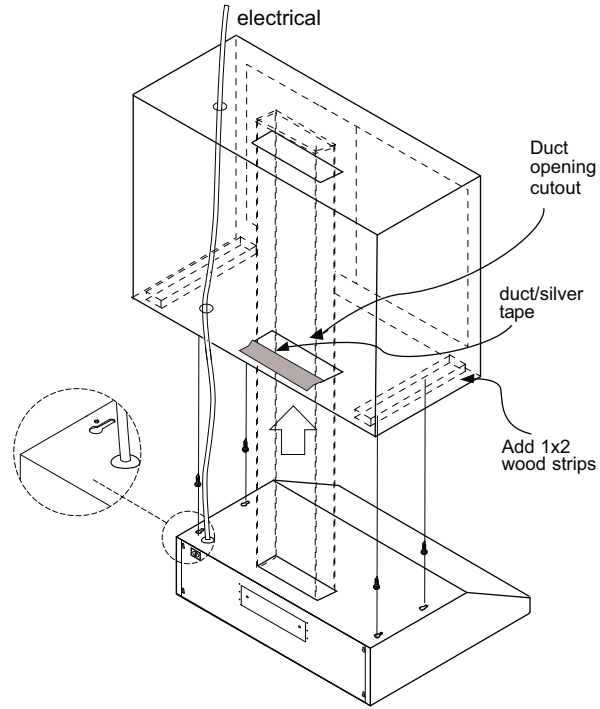

Fig 1
5. Remove each of the 5 screws holding the (2) interior recirculating panels.
6. Remove (2) interior recirculating panels.
**Hood is designed for installation under a kitchen cabinet (Fig 1)**